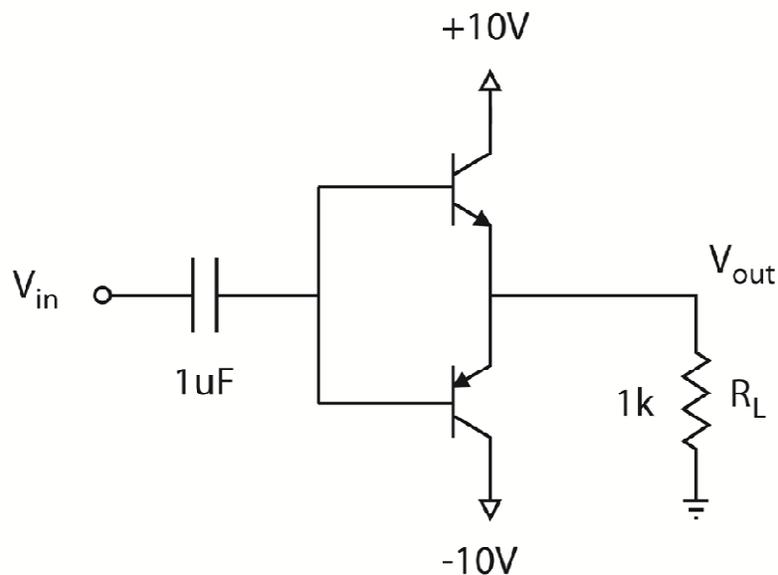

Fig. 1
1. Construct the circuit as depicted in Fig. 1. Apply a 1V, 1kHz sinusoidal signal to the input and observe the output on the oscilloscope. Measure the peak voltage and sketch the waveform in your lab notebook. Based on the fact that the transistors are connected in the common collector layout, what would you expect V_{out} to be? How much smaller is the output voltage from the input?